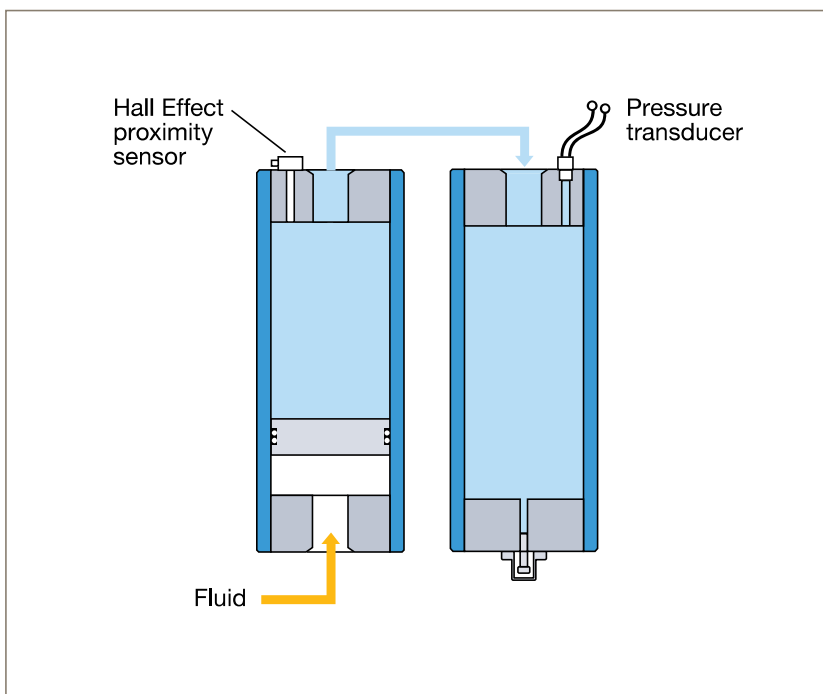

Fig. 14b Hall Effect sensor registers proximity of piston to end cap
Several methods can be used to monitor the precharge pressure of Parker's piston accumulators. Note that, in **Fig. 14b**, the flat piston must be used to enable the sensor to register its position.
- **In applications where an accumulator is coupled to a gas bottle:** A Hall Effect proximity sensor can be installed in the accumulator gas end cap (**Fig. 14b**) to detect when the piston comes within .050 inch of the cap. This system would provide a warning when precharge pressure has dropped and remedial action should be taken.